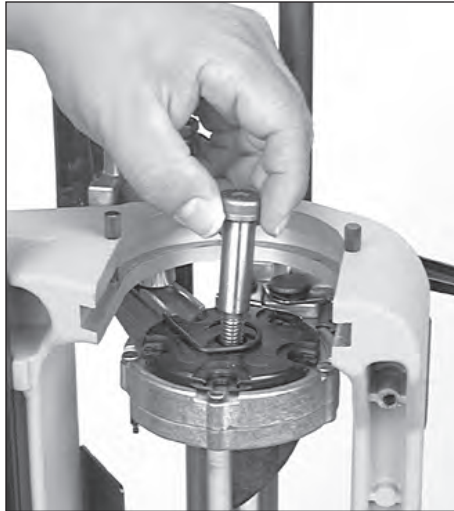

FIG 172
3. Swing the ejector wire back to its original position over the shellplate and insert the shellplate bolt **FIG 172**. Make sure the ejector wire is **AROUND** the shellplate bolt, not pinched underneath it.